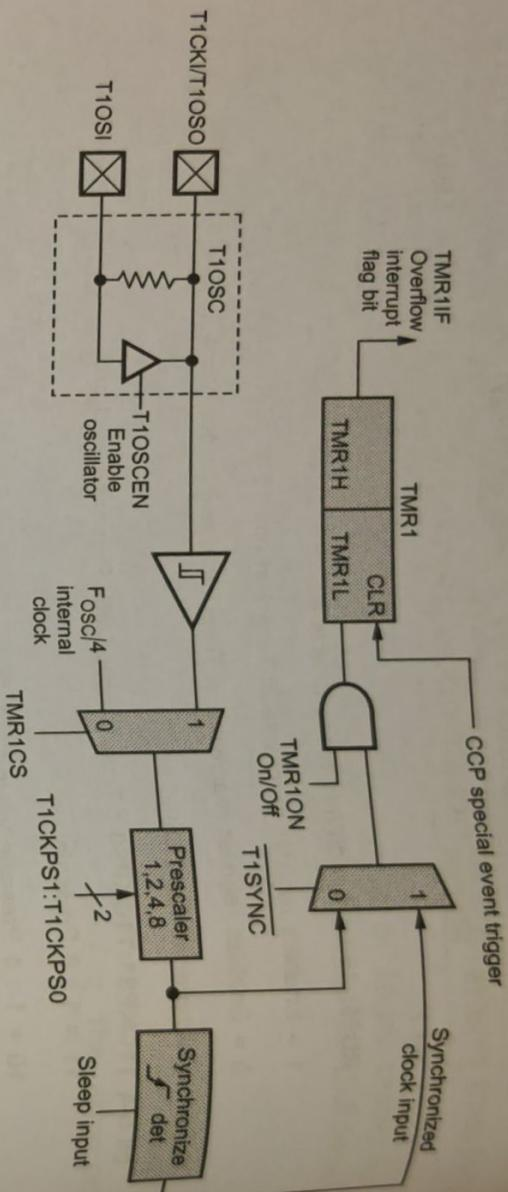

Fig. 4.4.2 Simplified block diagram of Timer1
- Fig. 4.4.2 shows the simplified block diagram of Timer 1.